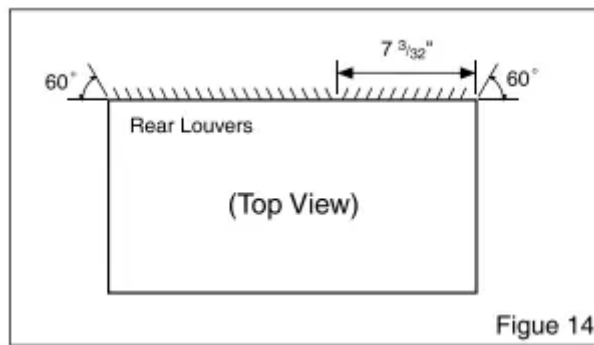

Figure 14
1. Redirect the louvers at the back of the wall sleeve to 60° angle as shown in the Figure 14. The use of pliers is recommended.